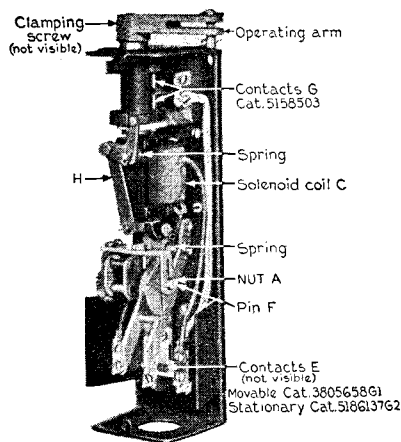

FIG. 4—SHIPPER-ROD-OPERATED TIME-DELAY MASTER SWITCH, WITH COVER REMOVED
These push-buttons are adjusted in the factory and under ordinary conditions the time adjustment will be satisfactory and need not be disturbed. However, if this time interval is not correct, it can be changed by loosening nut (A), Fig. 4 and moving pin (F) down for increased time or up for decreased time.
Moving the operating lever to the START position closes contacts (G), Fig. 4, energizing the shunt coil on the magnetic line switch and releasing the solenoid plunger mechanism (H). The interlock on the magnetic line switch energizes the solenoid coil (C) on the master switch; this draws the plunger to its upper position and completes the holding circuit to the magnetic line switch. Mechanism (H) is now free to operate on failure or reduction of line voltage.
The principal renewal parts are given in Fig. 4 and 5. For any other parts refer to the nearest Sales Office of the Westinghouse Electric and Manufacturing Company, giving the complete name-plate rating of the device and describing the part in detail. Order renewal coil by Cat. No. stamped on the coil.